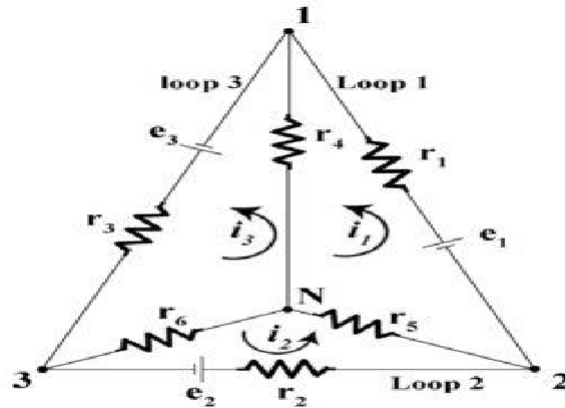

Figure: 5
**Example: 4** In figure 5, obtain the mesh equations. If  $e_1 = e_2 = e_3 = 1V$  and all resistances are equal to each other, being  $1\Omega$  each, what would be the loop currents?